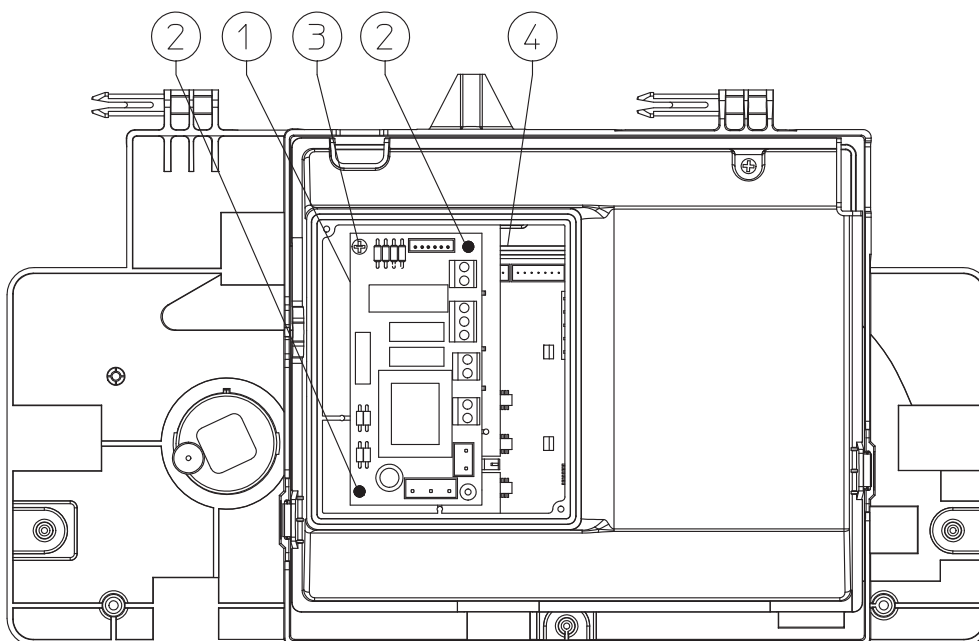

Fig. 3-1
- Open the control panel compartment to install the relay board (1) (see figure 3-1).
- Mount the board making the male pins (2) match the holes in the board (1) and fix it using the cross-head screws (3) (see figure 3-1).
- Make the electric connections between the relay board (1) and the boiler P.C.B. (4) using the relative wiring composed of two cables supplied with the kit. Connect the external components according to requirements following the wiring diagrams given on the next pages.